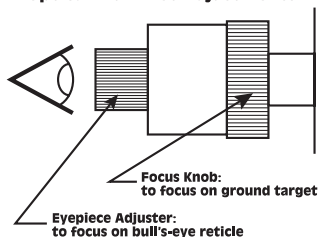

FIG. 9
C) Slightly loosen the tripod fastening screw and move the instrument until the ground target is centered in the optical plummet. (Fig .9)